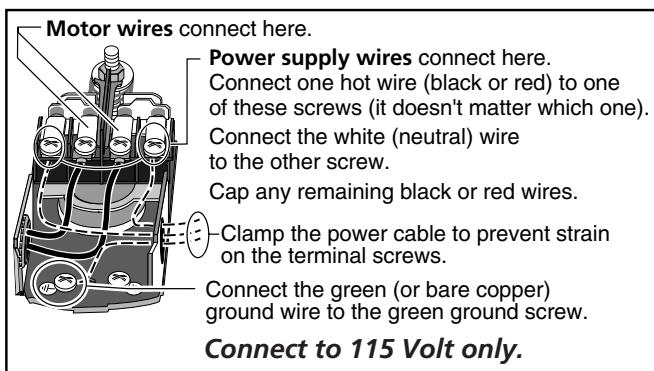

Figure 7 – Wiring Connections to 115 Volt Power Supply
4. Connect the power supply wires to the pressure switch as shown in Figure 7.